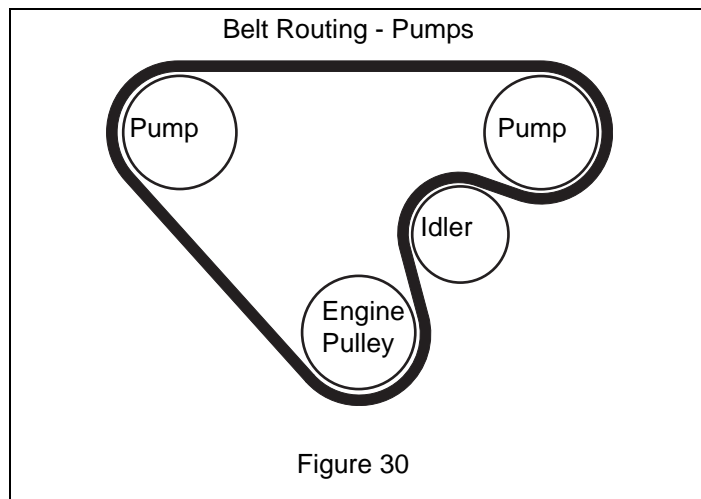

Figure 30
7. Install the new belt by sliding it above the pump pulleys. Route the belt as shown in figure 30.